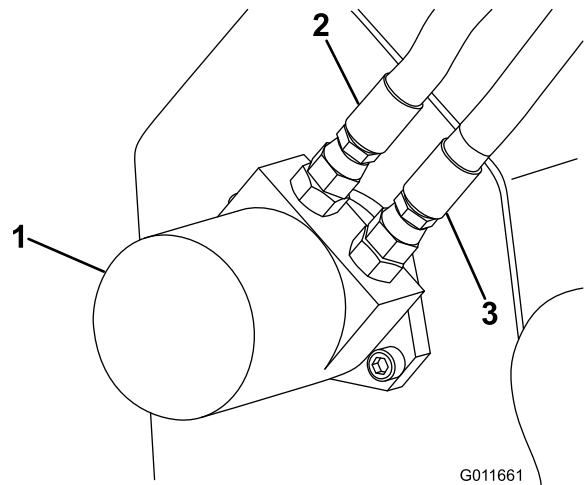

Figure 12
9. Disconnect the hydraulic hoses from the hydraulic motor on the trencher (Figure 12).
3. Disconnect the hydraulic hoses from the hydraulic motor on the trencher (Figure 12).